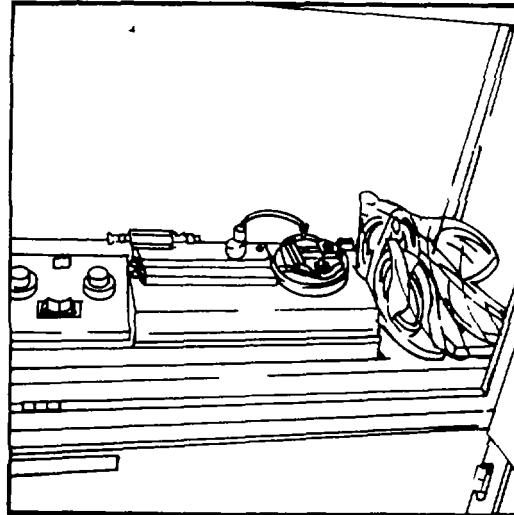

Figure 1-15. Flashpoint Tester
g. *Flashpoint Tester (Figure 1-15)*. The Flashpoint Tester is designed to determine the presence of a fuel dilution in lubricating oils in nonaeronautical engines.